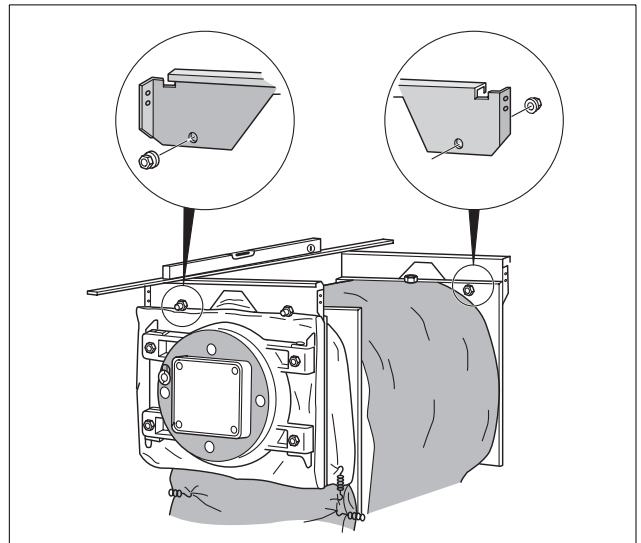

Fig. 7 Installation of front and rear cross brackets
- Secure front cross bracket (wider sections pointing down) at the holes to the threaded studs and secure in place with nuts (Fig. 7).
- Secure rear cross bracket (wider sections pointing down) at the holes to the threaded studs and secure with nuts (Fig. 7).
The edged surface of the cross brackets must point outward and both brackets must be placed horizontally (Fig. 7).